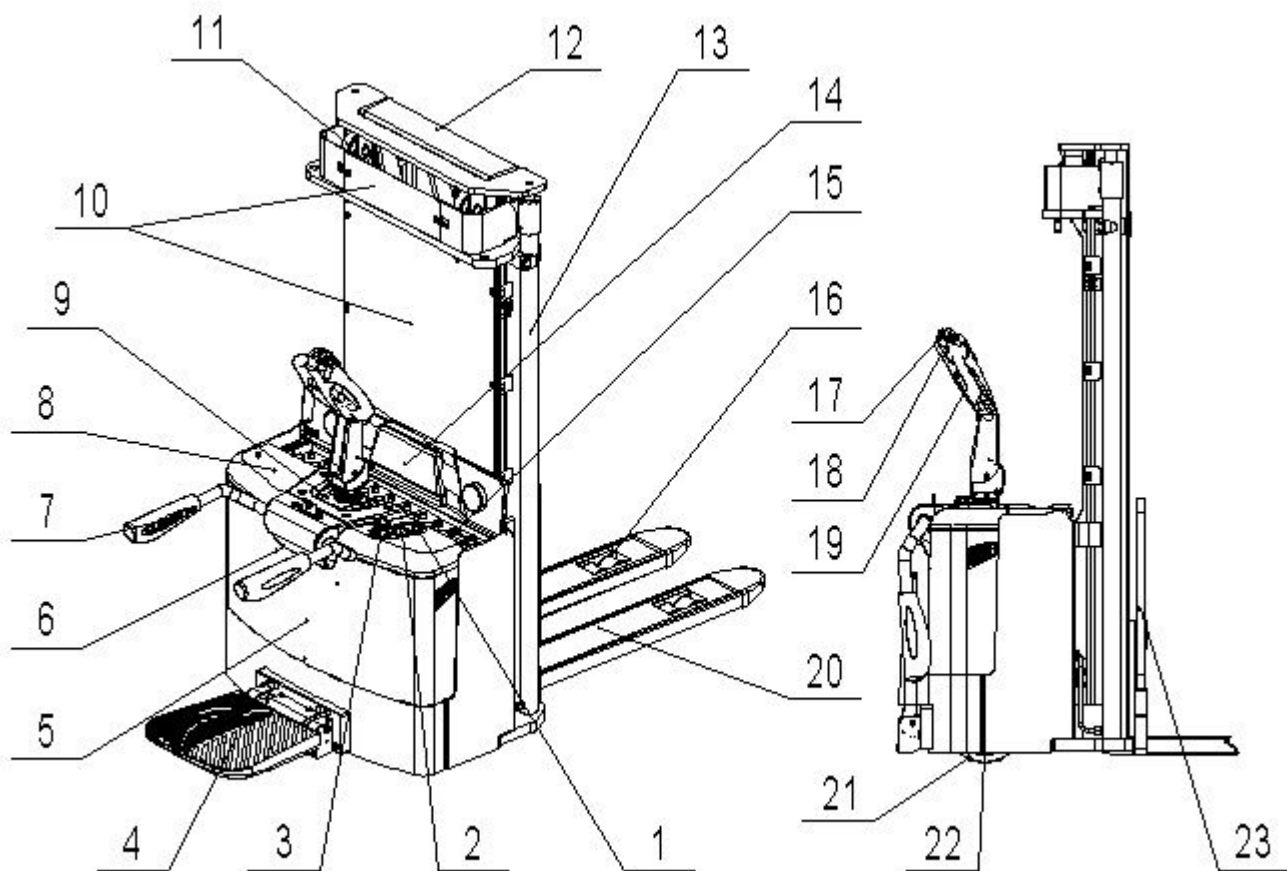

Fig. 1: Overview main components
- Use the truck without a removed protective screen (fig.1, pos.10/ guarding).